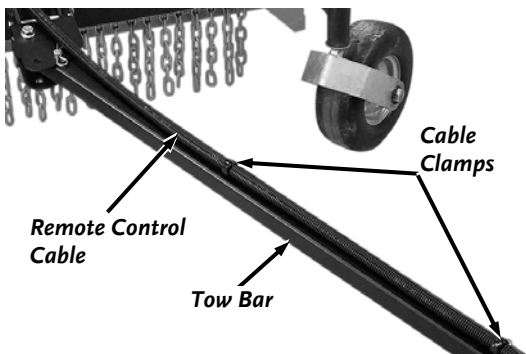

Figure 33
4. Remove the Clamps from the Remote Control Cable and rotate them so that they are facing the opposite direction, then reinstall them onto the cable (**Figure 33**).